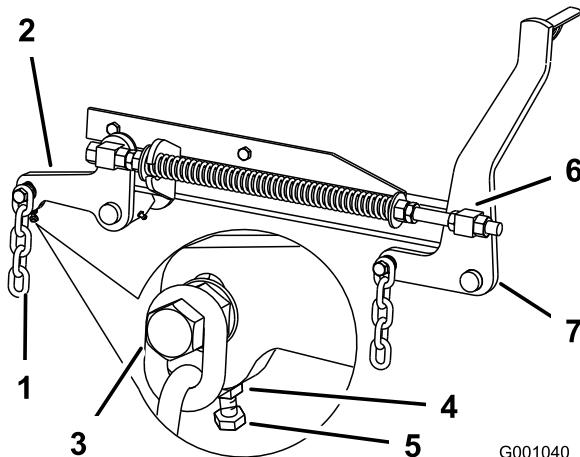

Figure 82
7. If the measurements at positions **B** or **C** are not correct, loosen the bolt attaching the rear chain to the rear support arm (Figure 82).
8. Loosen the jam nut under the rear support arm and adjust the adjustment bolt to get a measurement of 3-1/8 to 3-1/4 inches (80 to 83 mm) (Figure 82).
7. Loosen the front swivel jam nuts, at the front of the right and left swivels, approximately a 1/2 inch (13 mm) (Figure 82).
- (6 to 10 mm) lower in front at **A** than in the rear at **B** (Figure 82).